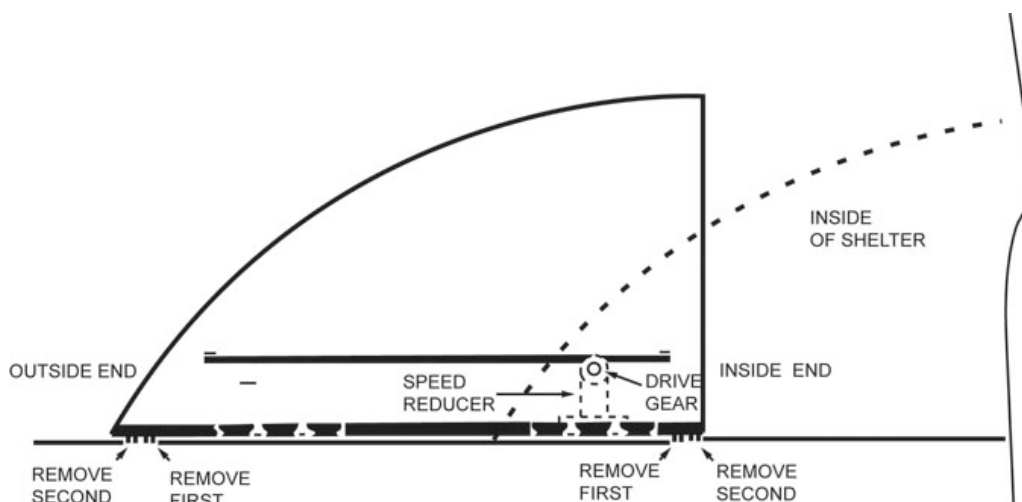

Figure 3-36. Guide roller removal.
1. Open the door until the inside end of the door is within approximately 6 to 8 feet from the speed reducer (fig. 3-36). With the door in this position, the guide rollers are close to the inside cut out.